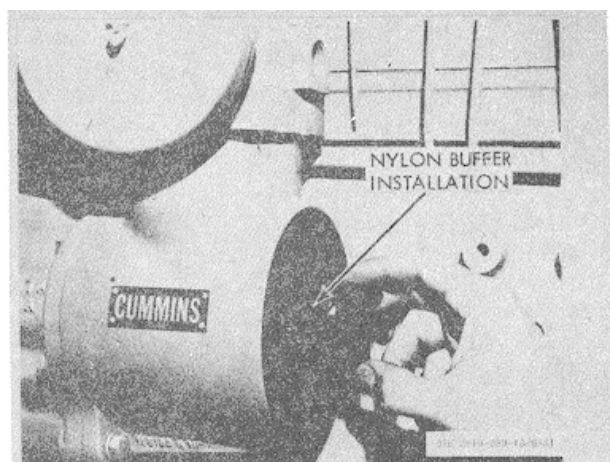

Figure 3-32. Nylon buffer installation.
(1) Mount pump and new gasket to compressor with buffer, figure 3-32, or to accessory drive flange with splined coupling.
(2) Install lockwashers and capscrews; tighten mounting capscrews.
(3) Install No. 10 fuel inlet hose to fuel pump.
(4) Install fuel pump bypass or fuel coolant line.